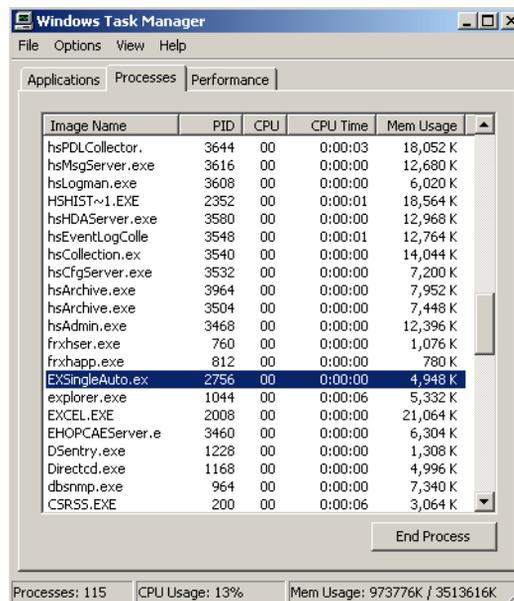

Figure 105. Terminating the EXSingleAuto and EXCEL Processes
1. Use the Windows Task Manager to terminate the **EXSingleAuto.ex** and **EXCEL.EXE** processes, Figure 105. Multiple instances of the EXCEL.EXE process indicates there are multiple instances of the report in the scheduling queue. In this case you may want to disable the scheduling definition to prevent further report instances from queuing.